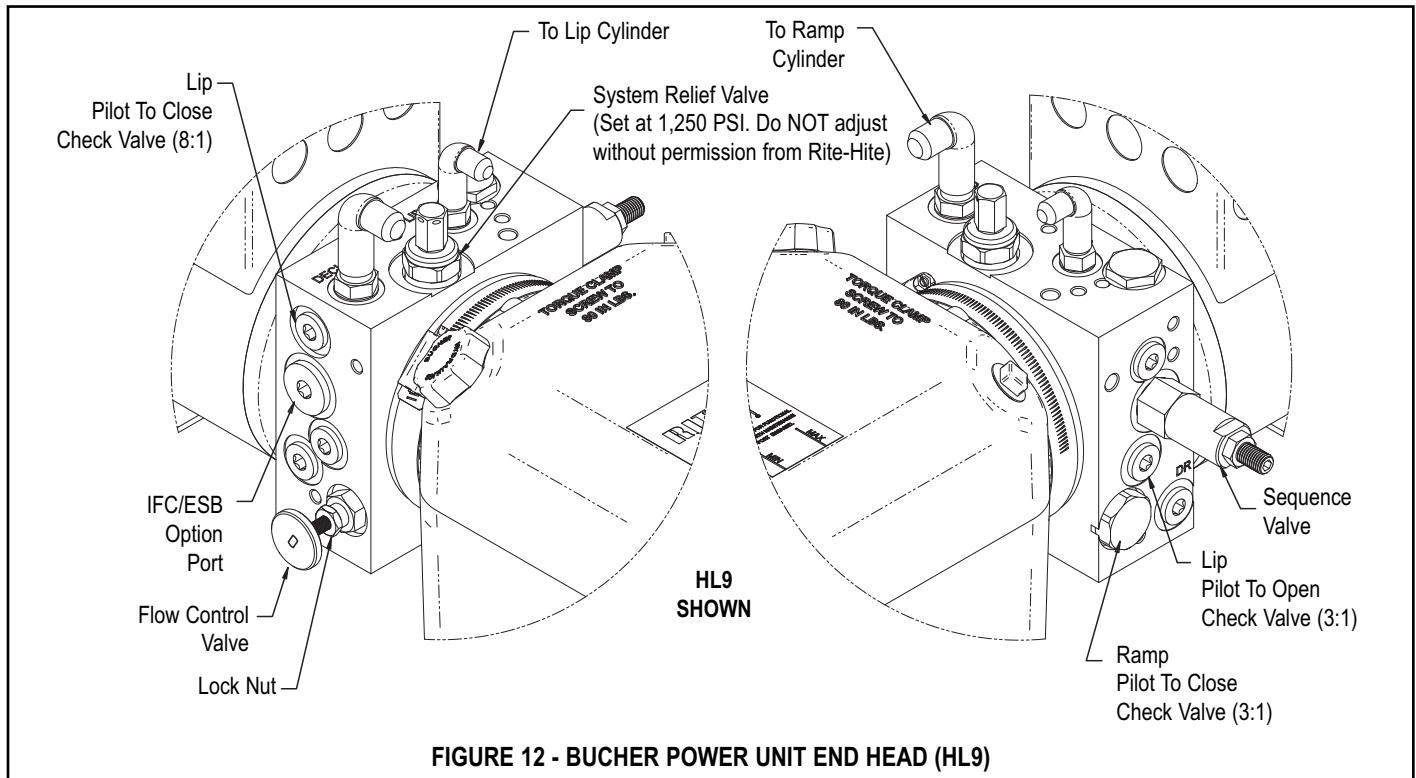

FIGURE 12 - BUCHER POWER UNIT END HEAD (HL9)
4. Set flow control valve (first loosen locknut on valve). See Figure 12.
3. Turn adjustment screw in completely (clockwise) with an allen wrench. See Figure 12.